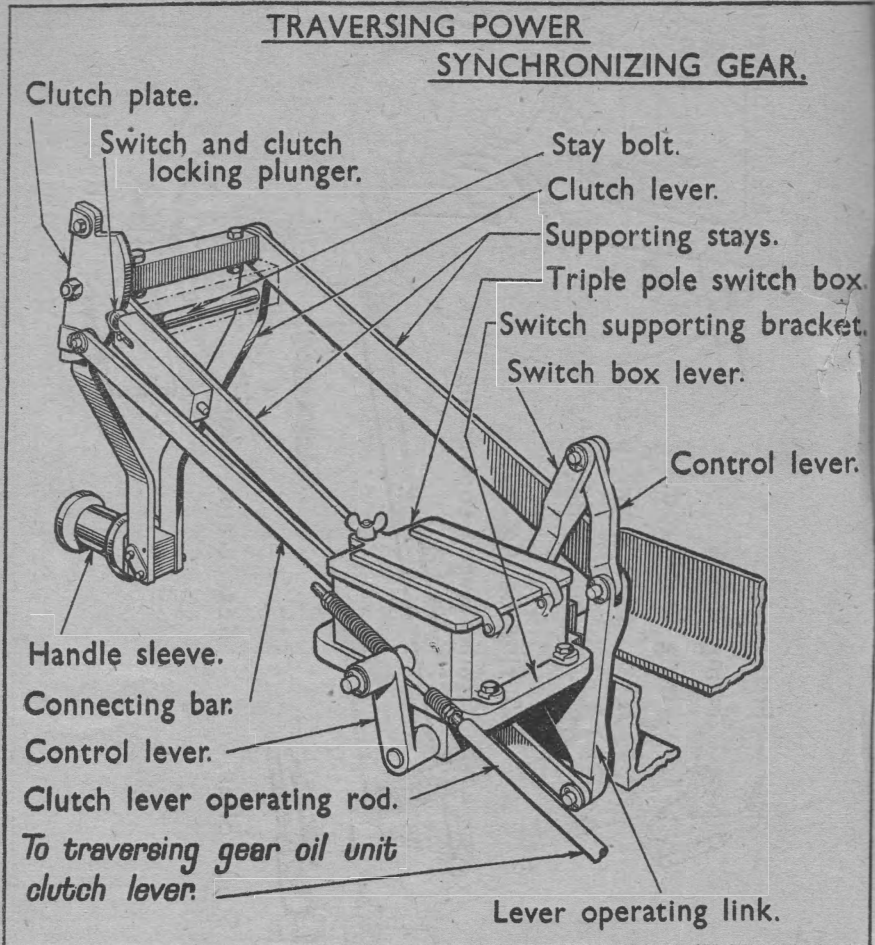

FIG. 27.
49. The **traversing power synchronizing gear** (Fig. 27) is provided to declutch the oil unit motor and switch off the current to the electric motor when traversing by hand. It operates on the tripole pole switch and a clutch lever on the traversing oil unit.